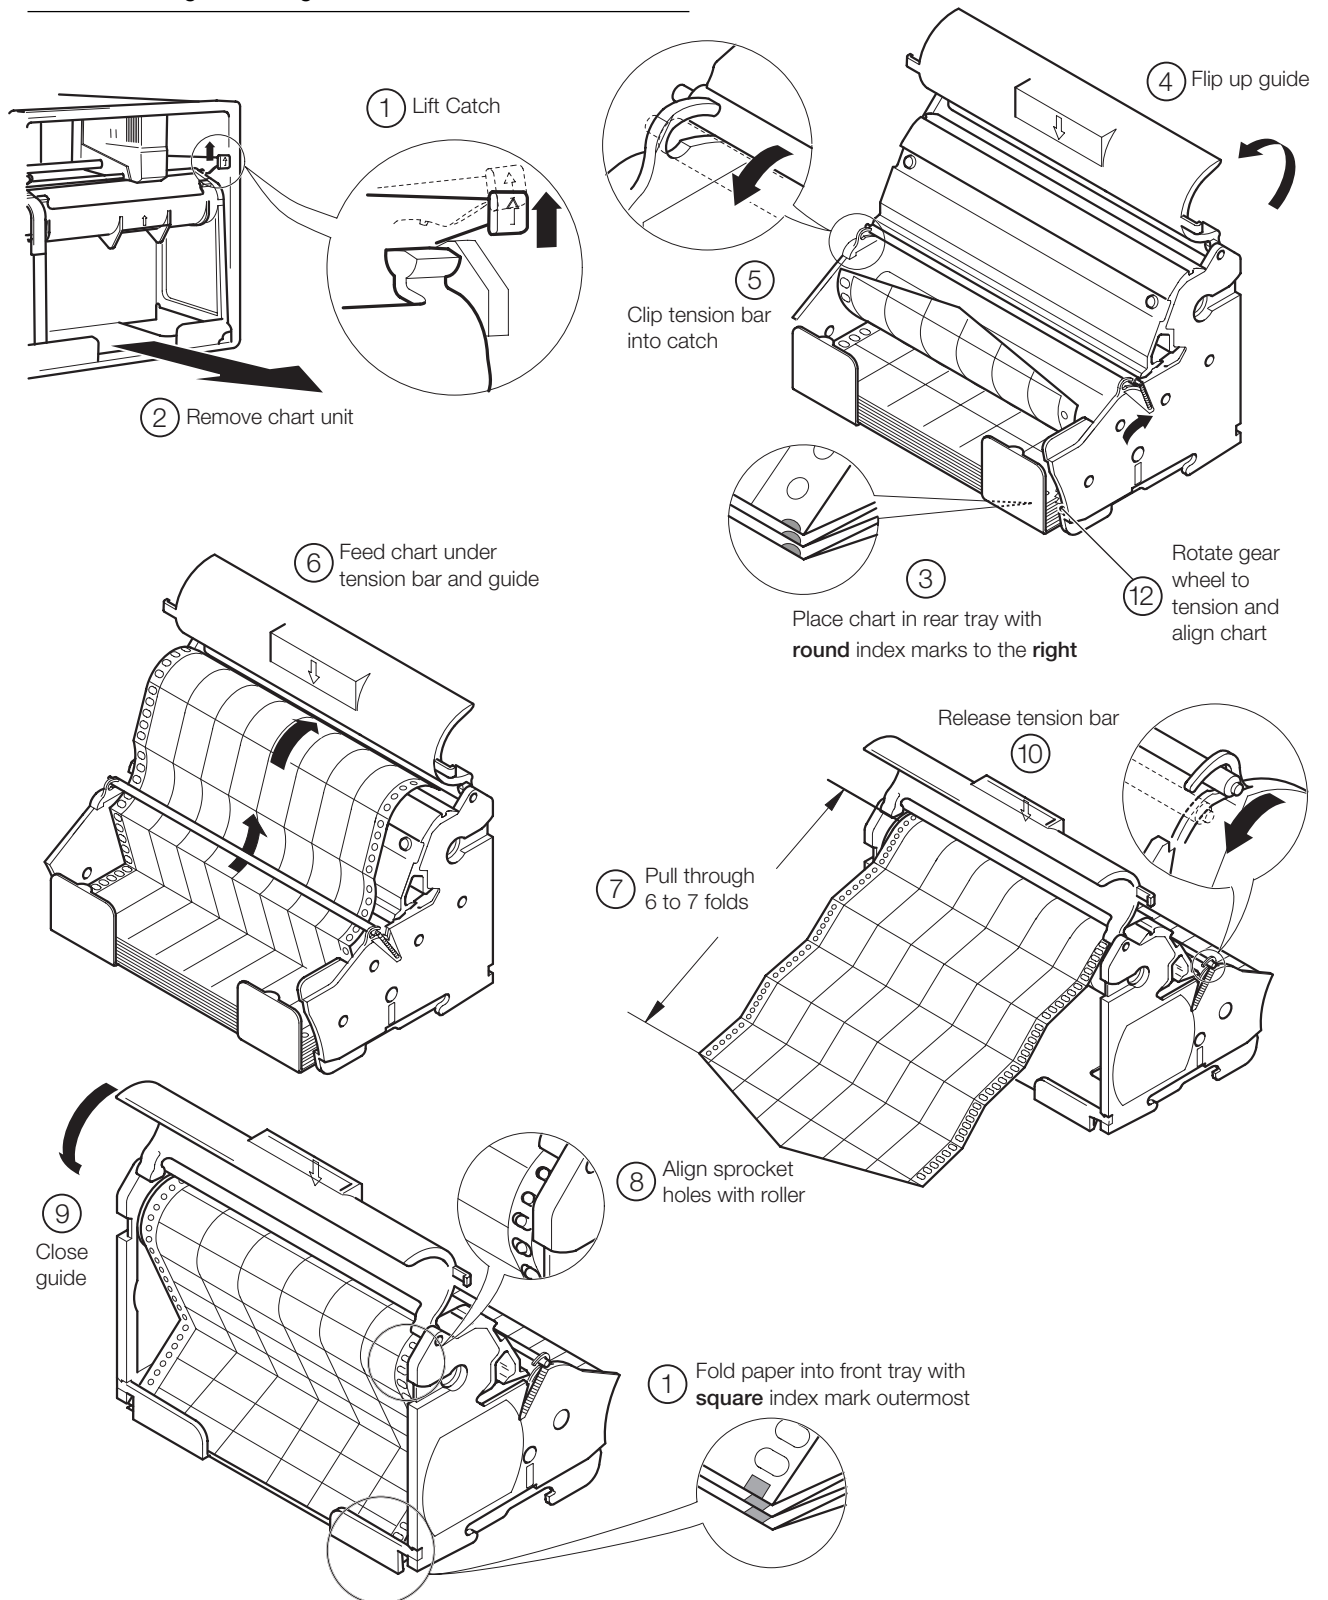

Fig. 1.3 Loading a Fanfold Chart
1.2 Loading a Fanfold Chart – Fig. 1.3
Load new fanfold chart – see Fig. 1.3 (refer to Section 6, Spares List for part numbers). When a new chart is fitted and the cassette replaced, press the key. The chart moves forward approximately 30mm to take up any slack.
...1.2 Loading a Fanfold Chart – Fig. 1.3